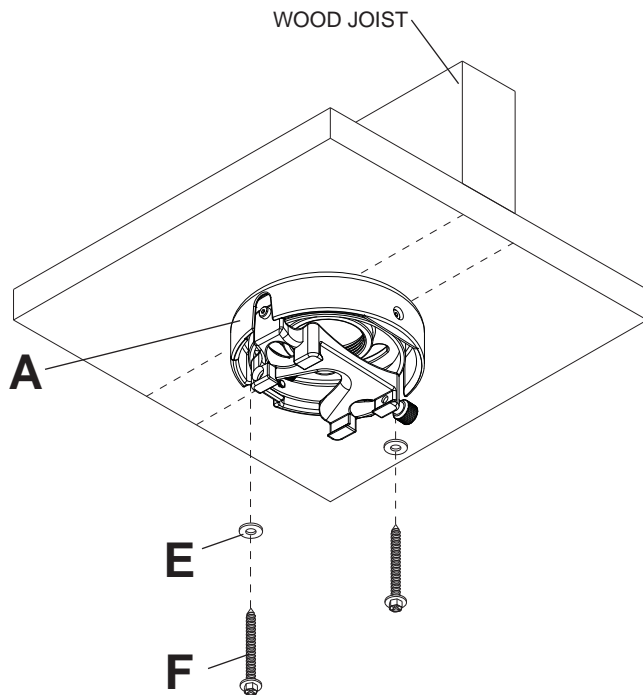
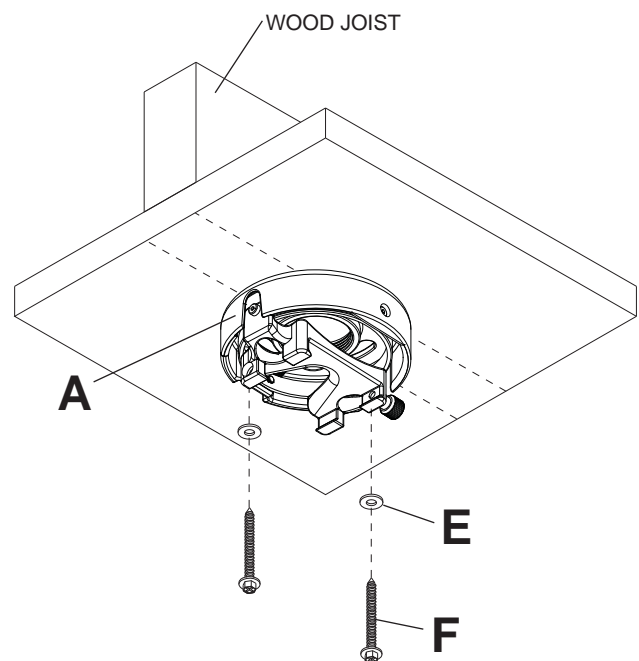

fig. 2.1
fig. 2.2
2 Place projector mount assembly (A) on ceiling as a template and mark the center of the two mounting holes. Make sure that the mounting holes are in the center of the wood joist. Drill two 5/32" (4 mm) dia. holes to a minimum depth of 2.5" (64 mm). Attach projector mount assembly (A) with two #14 x 2.5" (6 mm x 65 mm) wood screws (F) and two flat washers (E) as shown in **figure 2.1** or **figure 2.2** depending on joist orientation.